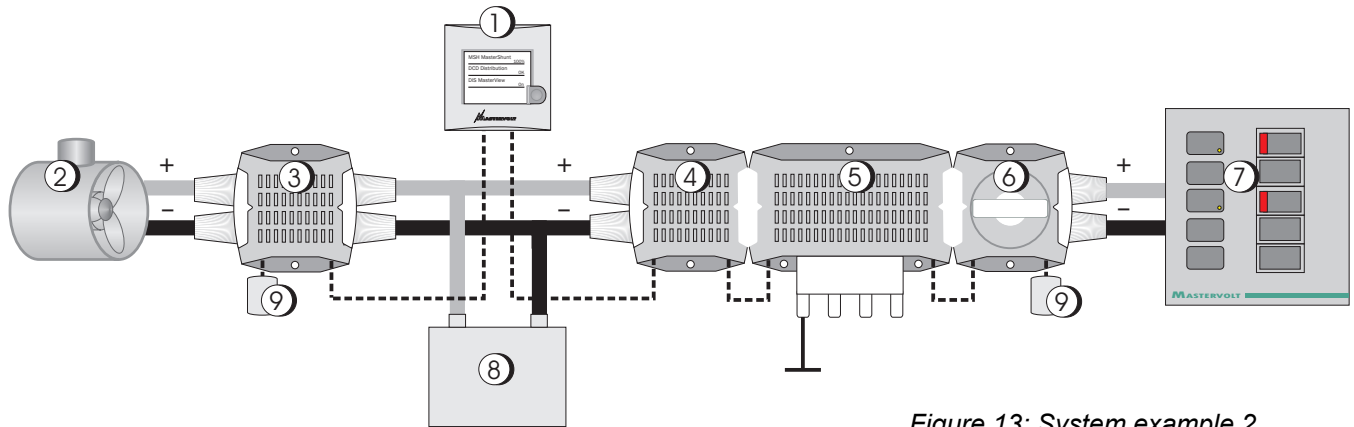

Figure 13: System example 2
configured in parallel to the battery, like shown. Figure 13 shows the parallel configuration of two MasterShunts (3) and (4) and other products.